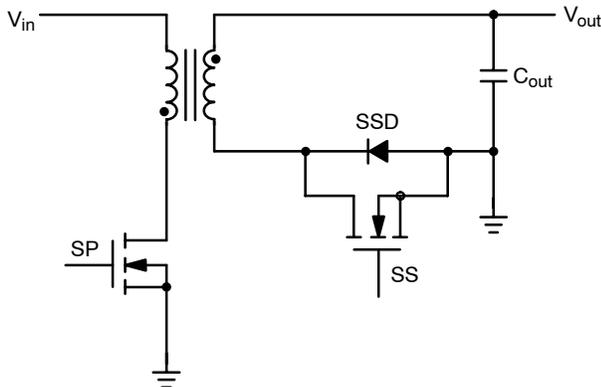
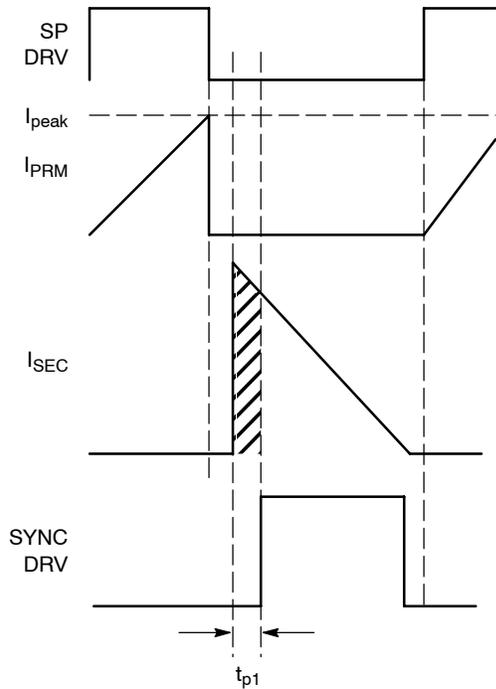

Figure 30. Synchronous Rectifier
Figure 31. Discontinuous Conduction Mode Waveforms
For a flyback converter to operate correctly with synchronous rectification there must be a delay between the time when the primary side MOSFET (SP Figure 30) and the secondary side Synchronous rectification MOSFETs (SS
The basic switching waveforms for the Flyback converter operating in DCM are shown in Figure 31. When the primary side MOSFET (SP in Figure 30) is turned-on current flows in the transformer primary and ramps up from zero to I_{peak} . When the primary side MOSFET (SP) turns-off the polarity of the transformer reverses and the energy stored in the transformer is transferred to the secondary. When the energy transfer from the transformer primary to the transformer secondary begins, (prior to the secondary side synchronous MOSFET turning-on) the secondary current flows through the internal body diode synchronous rectifiers MOSFETs (SS) (SSD). To minimize the losses in the SSD, the propagation delay (t_{p1}) must be low. Otherwise there will be high losses associated with the secondary peak current and the SSD forward voltage drop (NCP4302 has a typical propagation delay of 50 ns).